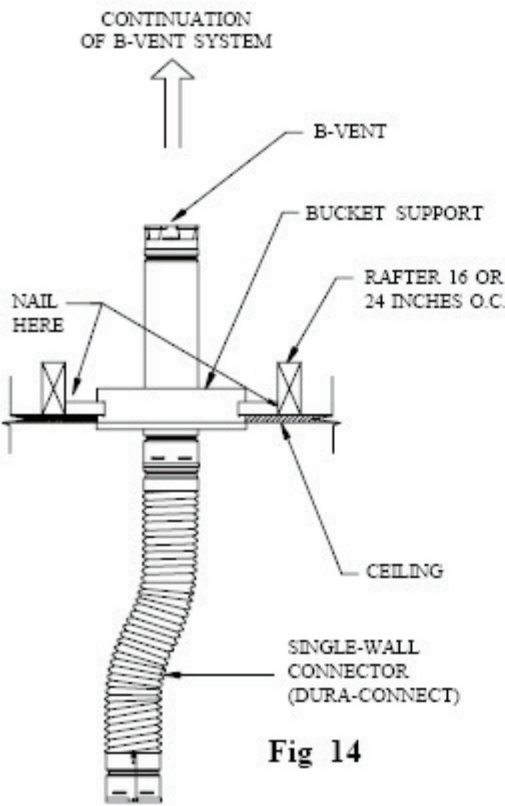

Fig 14
**2. Assembly.** After you have determined where the B-vent should be located, assemble the **Bucket Support** and **Brackets**. Nail the assembly to the bottom side of the joist material as shown in Figure 14. After the **Support Bucket** is in place, scribe and cut out a hole in the sheet rock 1/8" larger than the diameter of the **Bucket**, and